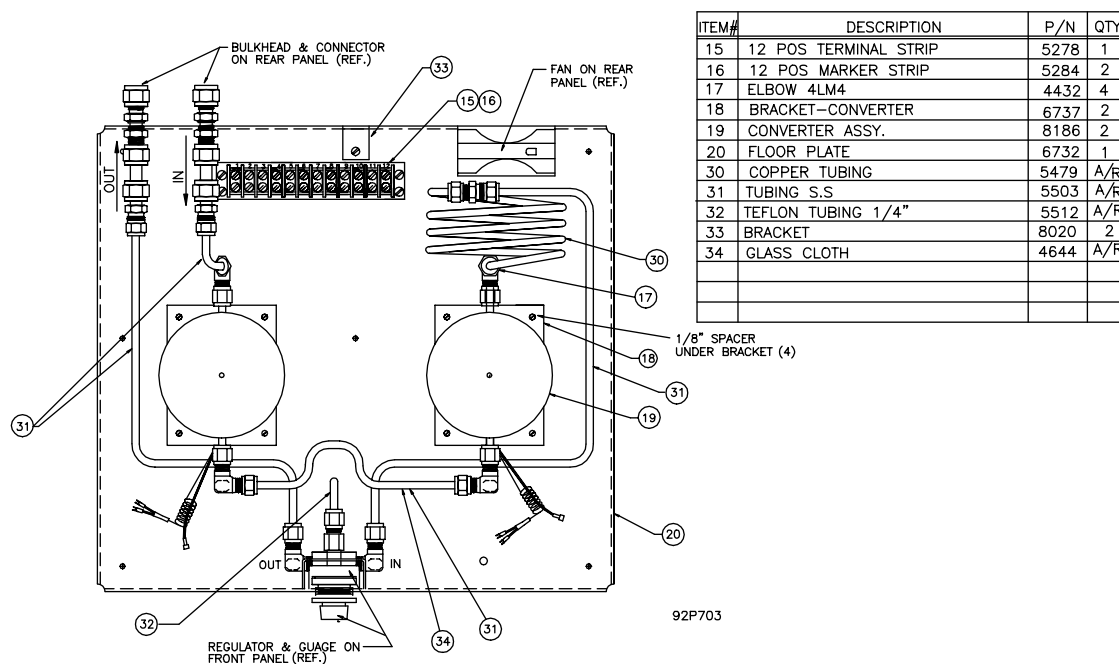

Figure 2-3 Model 1150 Internal Plumbing
1. The Model 1150 is now ready to be installed either in a rack assembly or for test bench purposes. With the unit placed in a secured location, the lines to the unit can be connected. Figure 2-3 illustrates the internal plumbing connections of the Model 1150. Only two lines are needed for connection from the rear of the Model 1150 CO Reactor unit. One line is for the input air and the other is for the output air which is converted from CO to CO₂.